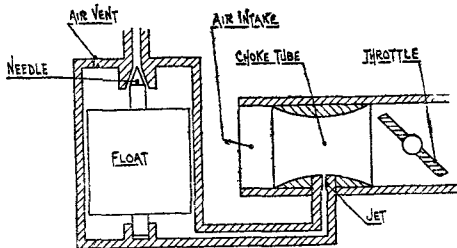
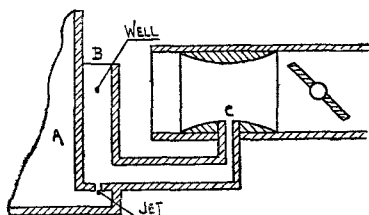
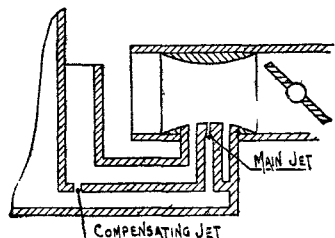
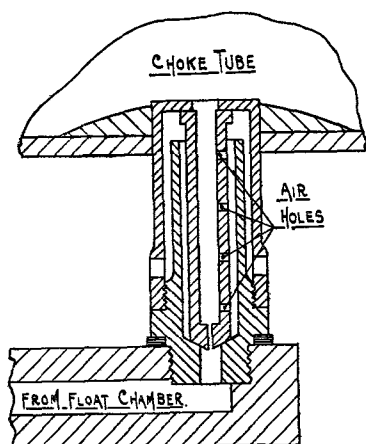

FIG. 4.—“Simple” carburettor.
FIG. 6.—Principle of compensating jet.
FIG. 7.—Zenith compensation.
FIG. 8.—Diffuser compensation.
Fig. 4 shows a simple type of carburettor. The float, needle and needle seating control the level of petrol in the carburettor, allowing the petrol to flow in when the level is low, and shutting it off when the level reaches the top of the jet. When the engine is on its inlet stroke the pressure in the inlet pipe is lowered, sucking petrol through the jet and air through the choke tube at a rate depending on the sizes of these components and the pressure difference between the inlet pipe and the atmosphere. In addition to regulating the flow of air, the choke tube increases the speed of the air, at a point where it passes the jet, sufficiently to break up the petrol into a fine spray. The throttle regulates the amount of mixture passing to the engine, so controlling the speed and power of the engine.
(b) *“Zenith”.*—Fig. 6 shows an arrangement in which the jet does not open directly into the choke tube, but into a U-tube. One end of this U-tube (B) is open to atmospheric pressure, whilst the other end (C) is under the pressure prevailing in the choke tube, the float chamber (A) also being under atmospheric pressure. When the engine is not running the
Fig. 7 shows the compound jet arrangement used in the Zenith carburettor (Meadows engine). Petrol is drawn into the choke tube *via* two concentric tubes, the central one forming the main jet (which is of the type shown in fig. 4) and the outer one fed with petrol from the "compensating jet" (which is of the type shown in fig. 6). The jets and choke tube are of suitable sizes to form a suitable mixture at any speed: if speed rises, the mixture produced by the main jet gets richer whilst that produced by the compensating jet gets weaker, the combined mixture from the two jets together remaining practically constant throughout the speed range of the engine.
- (c) "*Diffuser*".—Referring again to fig. 6, if the opening of B to atmospheric pressure is completely blanked off, fuel is drawn from the jet solely by the lower pressure at C, *i.e.* the carburettor behaves as in fig. 4 and the mixture gets too rich as engine speed rises, instead of too weak. There must, therefore, be some degree of opening of B to the atmosphere which will result in an unvarying mixture strength at all engine speeds: this principle is used in the Solex carburettor fitted to the 750 watt Norman-Lyon set, fig. 8 showing the arrangement of the jet. As the level in B falls, successive holes are uncovered which admit air: their size and position is such that the mixture is kept constant.